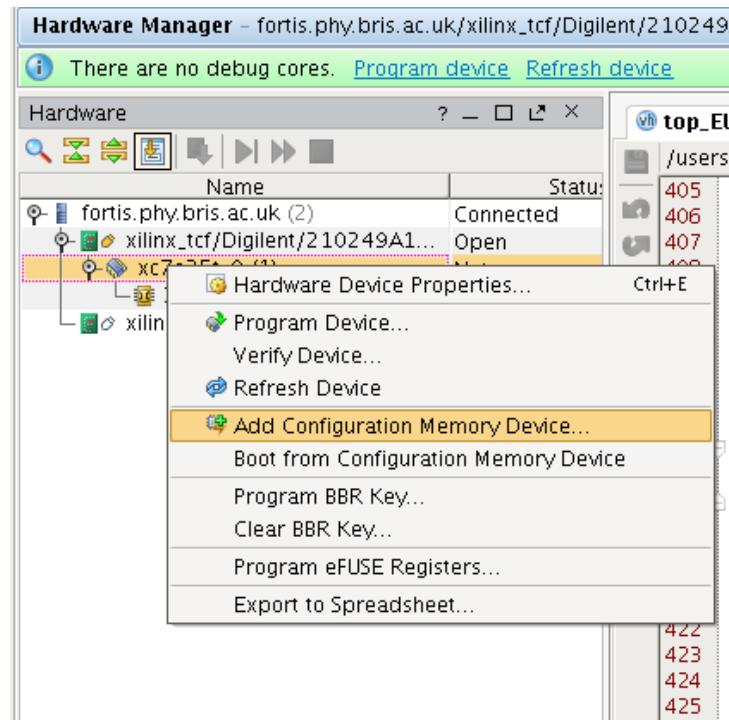
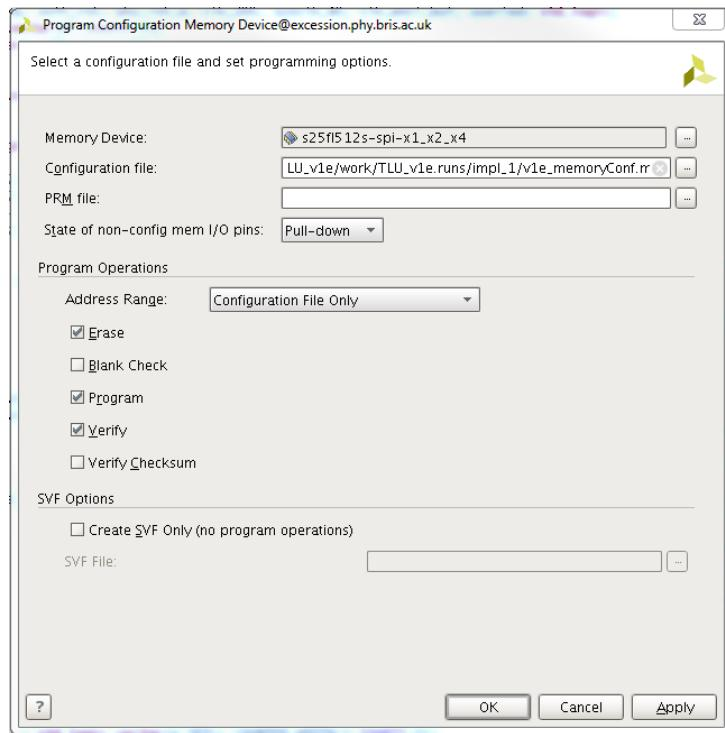

Figure 1.4: Program interface.
Figure 1.5: **EEPROM** interface. The options shown in the picture are suitable to configure the device correctly.
4. Right click on the FPGA (typically xc7...) and select Program device (see figure 1.4)
The procedure to write a permanent program in the **EEPROM** is very similar to the one followed to write a bit stream file, with the exception that the user should select **Add configuration memory device** in the options, as shown in figure 1.4. This will open a new window, shown in figure 1.5, from which it is possible to indicate the file to use (with extension **.mcr**). Make sure that the options are set as shown in figure 1.5.